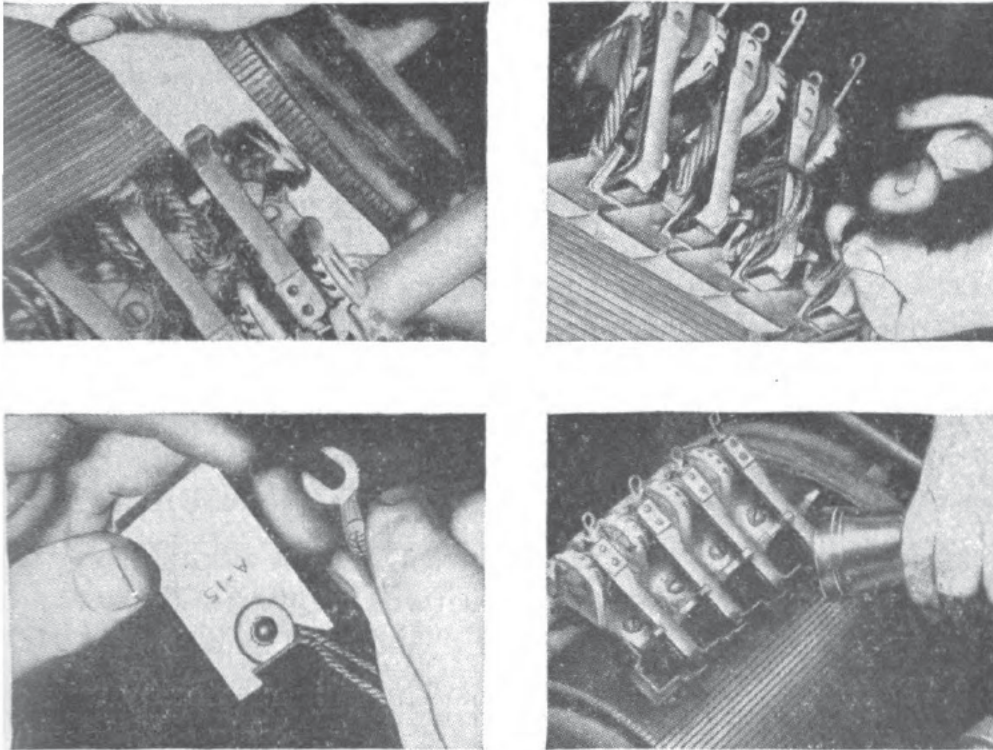

Figure 4-4.—Installing brushes on d-c machines.
Figure 4-4 shows the four steps involved in installing brushes on d-c machines when sandpaper is used as an abrasive. Before beginning, disconnect all power, and be sure that the machine cannot be started accidentally. Step one is concerned with a preliminary inspection of the brush holders. Use a flashlight to check the brush holders, inside and out, for burned spots that may have been caused by flashing at the commutator. If the inside of the holders shows roughness, remove this with fine sandpaper glued to
1. Install the brushes in the brush holders taking care to make the preliminary inspections shown in steps one, two, and three of figure 4-4. Start the machine.